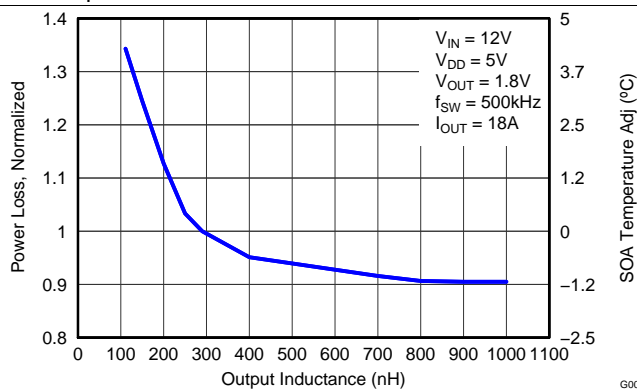

Figure 8. Normalized Power Loss vs Output Inductance
- Normalized Power Loss for output inductor  $\approx 1.1$  (Figure 8)
- SOA adjustment for output inductor  $\approx 1.3^\circ\text{C}$  (Figure 8)